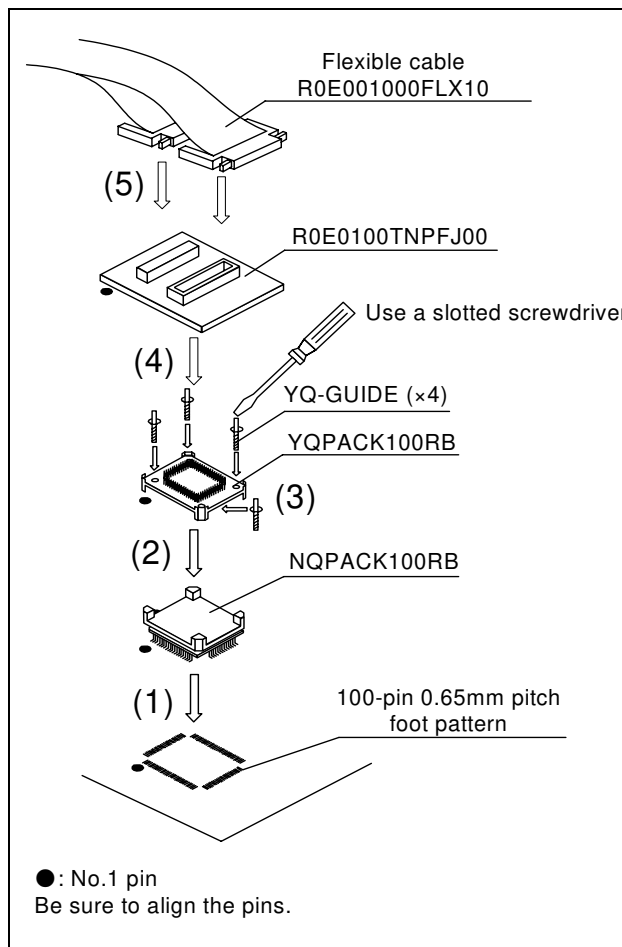

Figure 3 Connection procedure of the R0E0100TNPFJ00
5. Connection Procedure (See Figure 3)